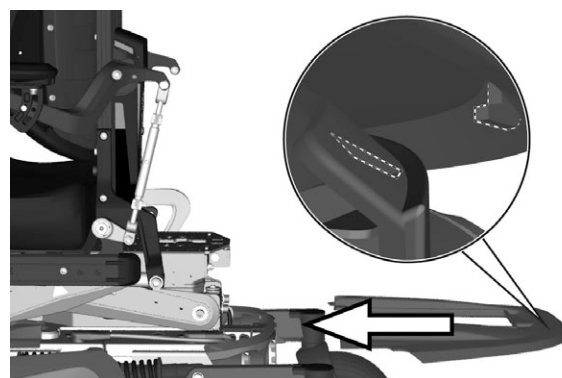

Figure 10. The chassis top cover.
4. Slide the top chassis cover on to the chassis and at the same time push the rear edge of it downwards to make sure it hooks on to the rear chassis cover. See fig. 10.